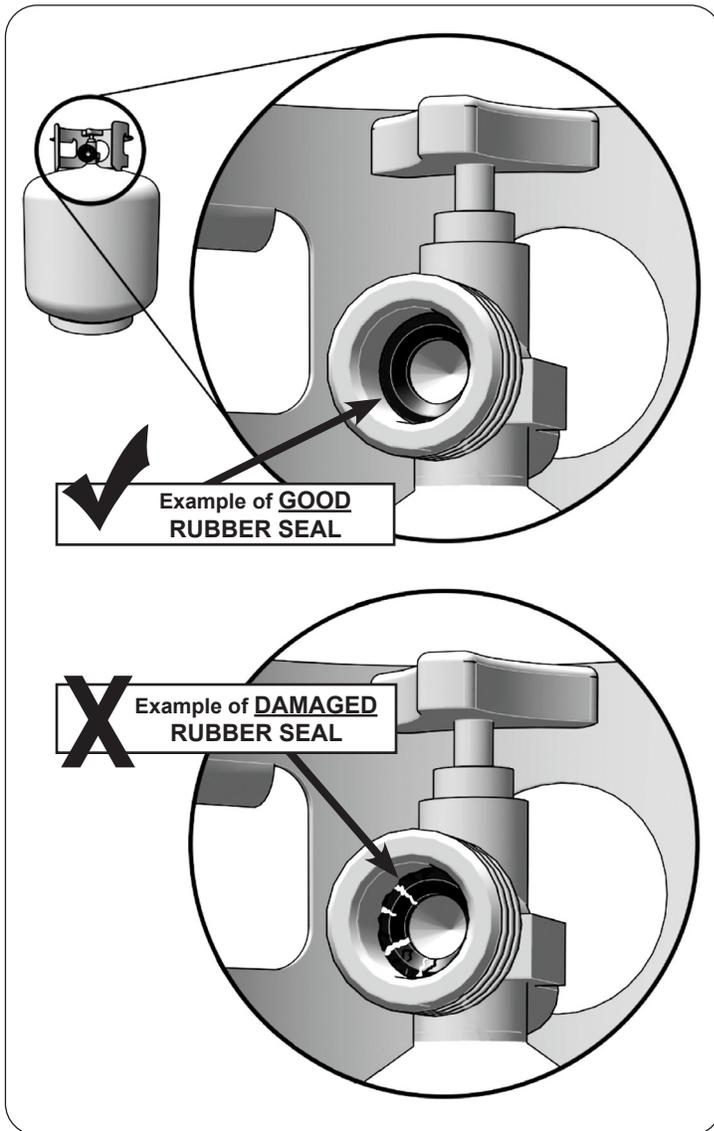

Fig. 6-1 Inspect rubber seal
- D. **CGA 791 connections on LP gas cylinders:** The cylinder face elastomeric face seal element (rubber seal) on these devices could, over time, show marked and visible damage or deterioration that might cause a leak even with the connection tightened. A visual inspection for the seal must be carried out every time a LP gas cylinder is replaced or refilled. Any LP gas cylinder showing signs of damage or deterioration as illustrated in Fig. 6-1, including visible cracks and pitting, must be replaced.